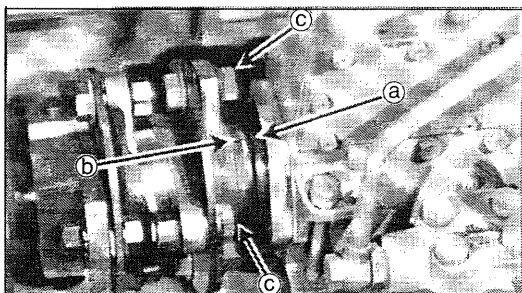
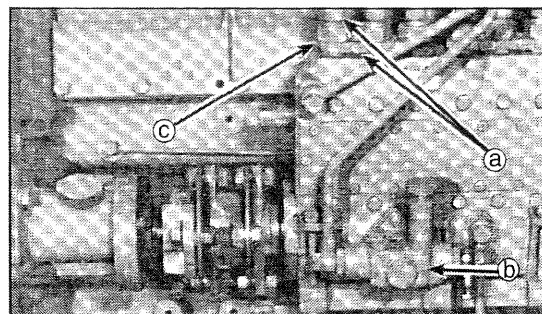

Figure 14
Figure 15
- d. Remove coupling bolts (Fig. 14-c) between the coupler (14-b) and the flange (Fig. 14-a) on the pump drive.
- c. Reinstall coupling (Fig. 14-c) bolts, but do not tighten them until pump is timed as per next section.
- e. Remove the coupling cover (Fig. 12-14). Check the stamped line on the injection pump (Fig. 14-a) and on the coupling (Fig. 14-b). They should be aligned.
- f. If the stamped lines are out of alignment, loosen nuts (Fig. 14-c) and align the stamped lines by shifting the coupling side. Retighten the nuts to 43-46 lbs. torque (5.9-6.2 kg).
- a. Disconnect fuel injection line from the No. 1 cylinder delivery valve on the injection pump (see Fig. 15-a).
- e. Stop rotating and pumping when fuel stops flowing out of the delivery valve holder (Fig. 15-c).
- i. Adjust the timing. To do this, remove the two bolts (Fig. 14-c) on the coupling. Rotate the coupling on the pump side little by little while operating the priming pump (Fig. 15-b) until no fuel flows out of the delivery valve holder (Fig. 15-c). If the slots do not allow enough adjustment, call Alaska Diesel Electric.
- j. Replace the two bolts (Fig. 14-c). Now re-check the injection timing to see it is properly adjusted by repeating steps d & e.